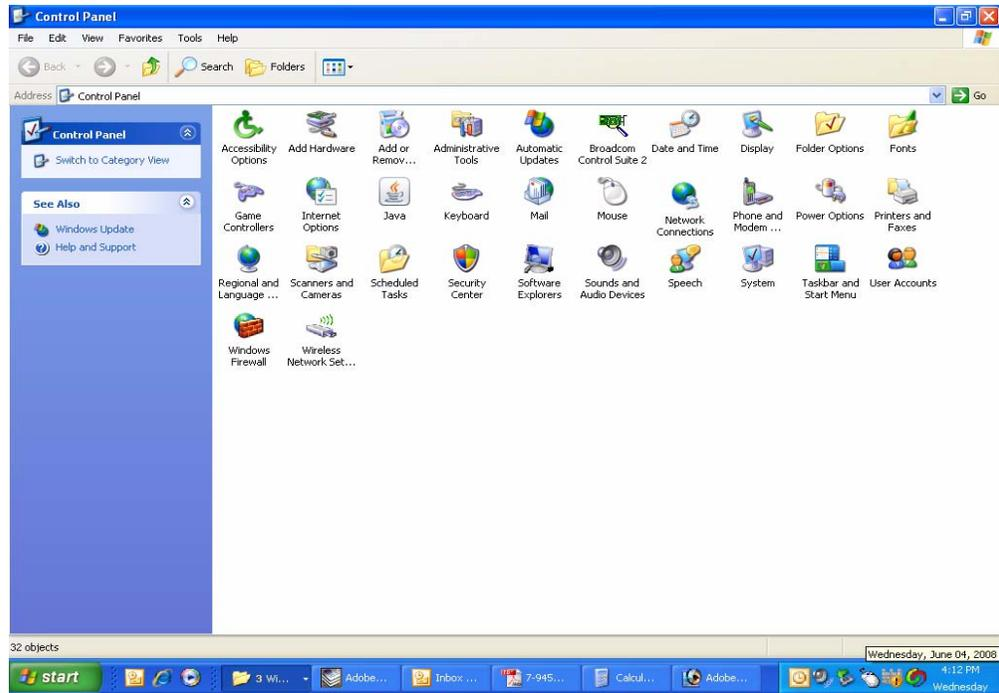

Figure B2: Select the "Network Connections" icon.
- 3) From the “Control Panel” icon selections double click on the “Network Connections” icon. Refer to **Figure B2**.